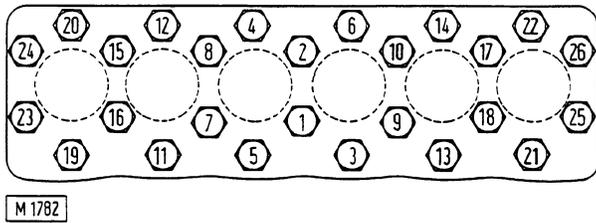

Fig. 12 - Cylinder head stud nuts tightening sequence.
- tighten nuts following the sequence shown in fig. 12 in three different stages to the following torques :